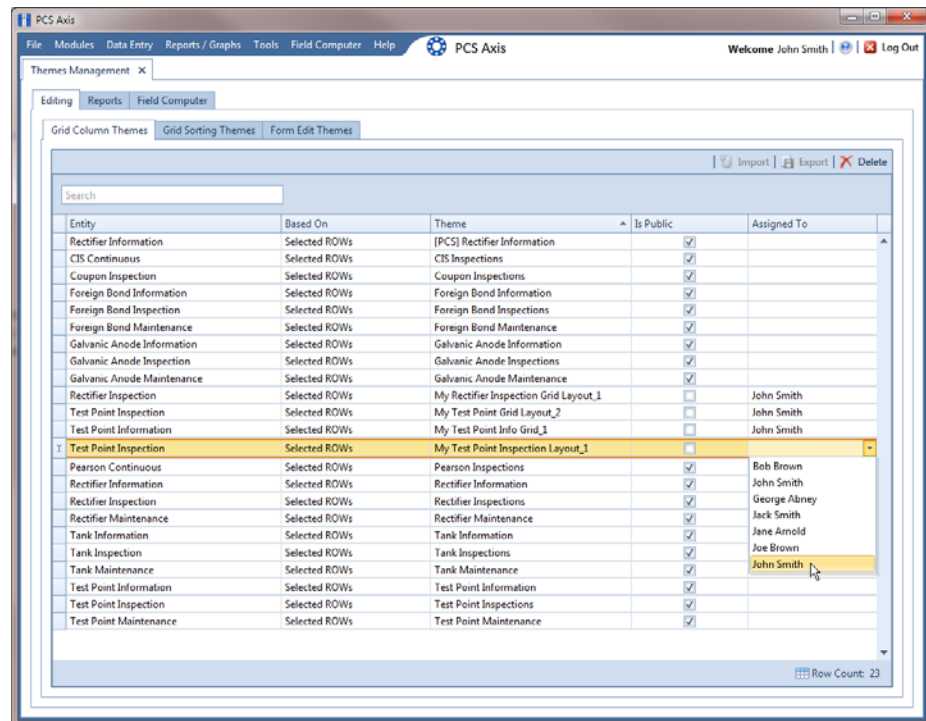

Figure 14-7. Themes Management
- 1 Click **Tools** > **Themes Management** to open the *Themes Management* window (Figure 14-7, page 608).
- a Select a theme in the grid. In the following example, a *Test Point Inspections* theme addition is selected (Figure 14-7, page 608).